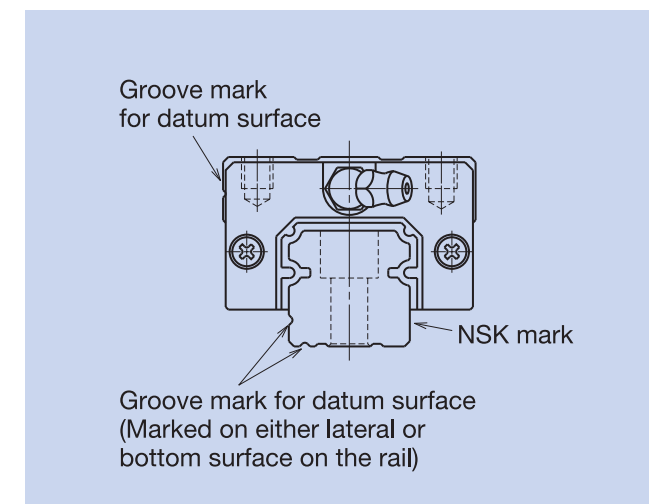

Fig. 8 Datum surface
- For NSK linear guides, the datum surfaces of the rail and of the slide are either marked with a "datum surface groove" or with an "arrow." (Fig. 8).